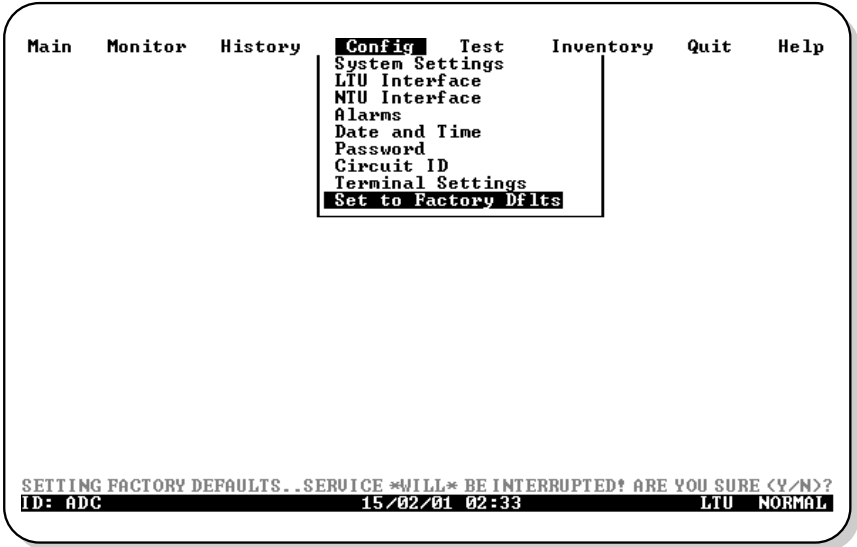

Figure 21. Set to Factory Dflts Screen
- 1 Press **F** at the Config drop-down menu to display the Set to Factory Dflts screen (Figure 21 below).